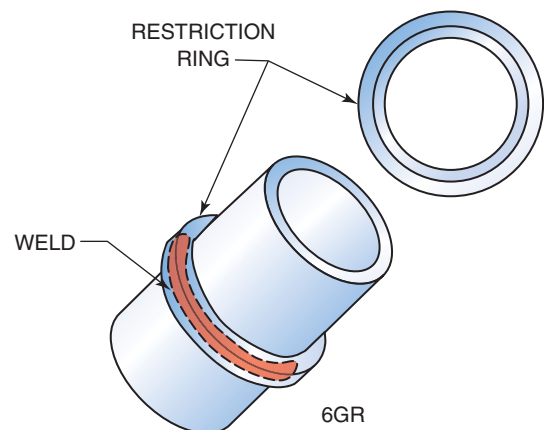

Figure 3.14 Pipe 45° inclined position with a restricting ring
- inclined with a restriction ring 6GR—The pipe is fixed at a 45° inclined angle, and a restricting ring is placed around the pipe below the weld groove, Figure 3.14.